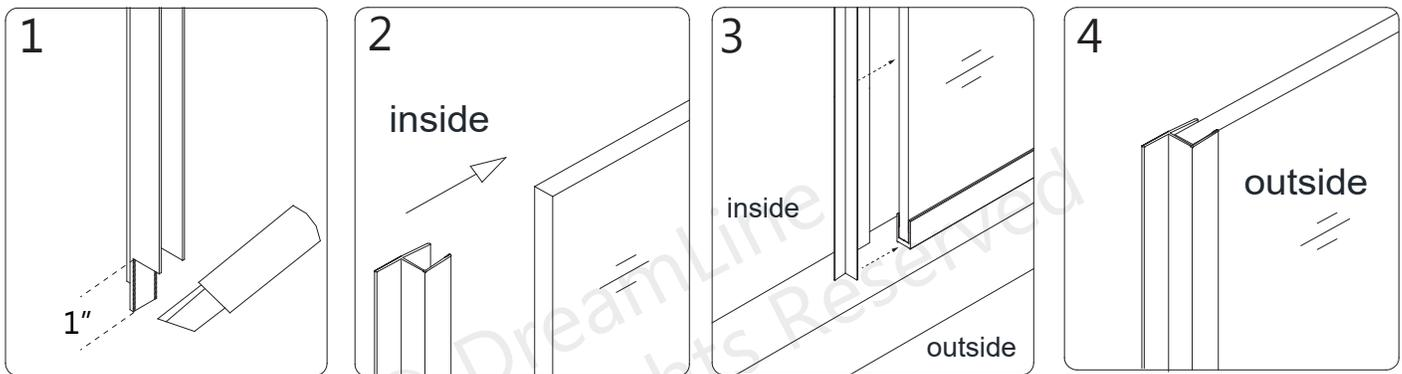

Fig 24
24. Notch the **Anti-Water Strip (inline panel) (#19)** to fit around the bottom **U-Channel 2 (#29)** as shown. Push the strike vinyl tightly onto the edge of the **Stationary Panel Glass (#11)**. (**Fig 24**)